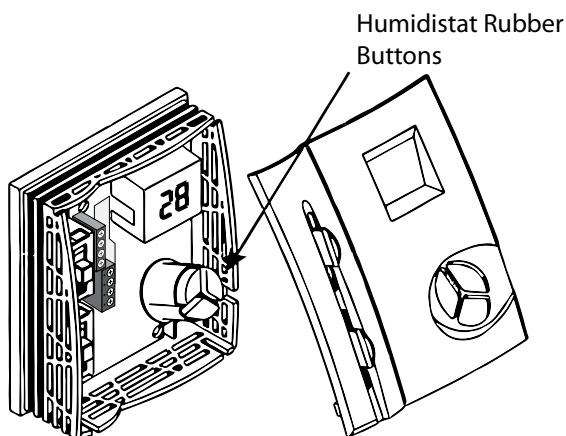

Figure 7 – Make sure the rubber buttons align with the holes in the cover.
2. Align the humidistat rubber buttons with the holes in the cover as shown in **Figure 7**.